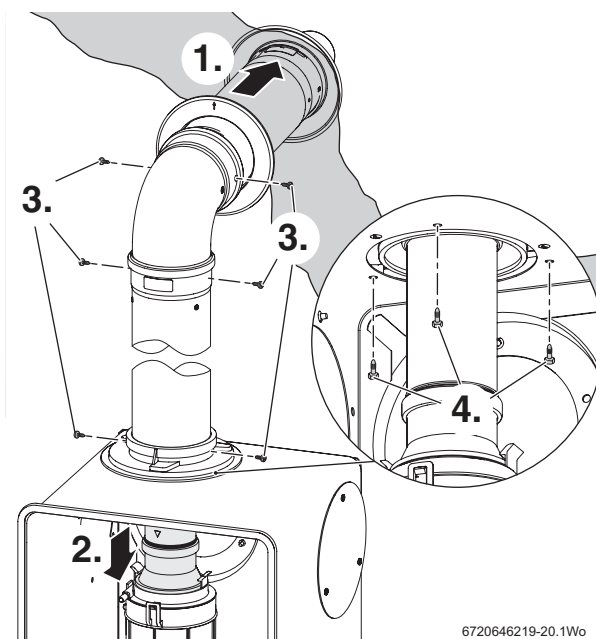

Fig. 22 Fitting the high level horizontal flue
4. Align the holes in the adapter with the holes in the boiler case. Secure the vertical flue adapter from inside the boiler case, with the screws provided, as shown in the inset of figure 22.